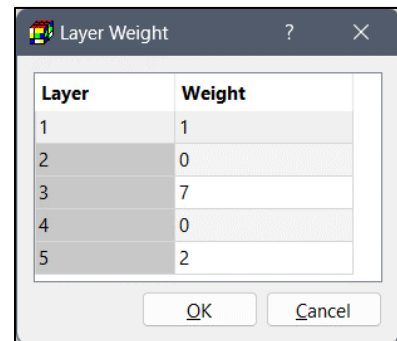

Figure 39. The Layer Weight dialog box
- **Layer:** Double-click on the cell of the respective well to edit its layer weights in the Layer Weight dialog box (Figure 39). A single-layer observation point is defined by setting a positive Weight value to one and only one layer. A multi-layer observation point is defined by assigning positive Weight values to more than one layer.
- **Layer Weight:** Select this option to open the Layer Weight dialog box (Figure 39), and to assign the define Layer Weight values to the selected observation points.